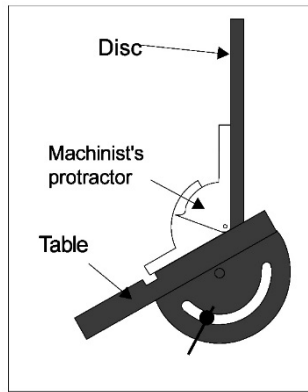

Figure 10: Achieving accurate angles using a machinist's protractor
**Note:** The table protractor, while accurate, may not give you the precision required for highly accurate grinding. For these cases requiring high precision angles, use a machinist's protractor to establish the required angle between table and disc as shown in Figure 10.